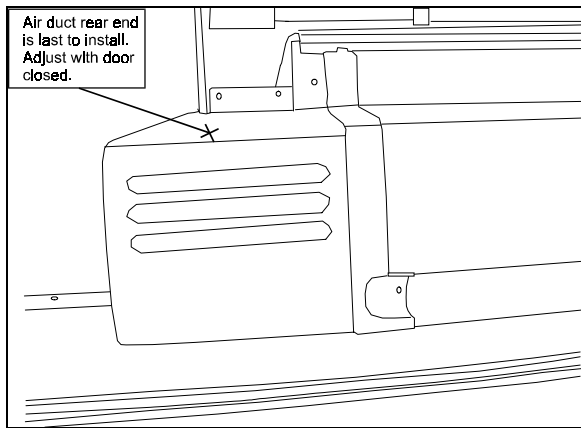

FIGURE 15
7. Close the door and adjust the rear end cap to have a gap of 13 to 16 mm (refer to figure 15).